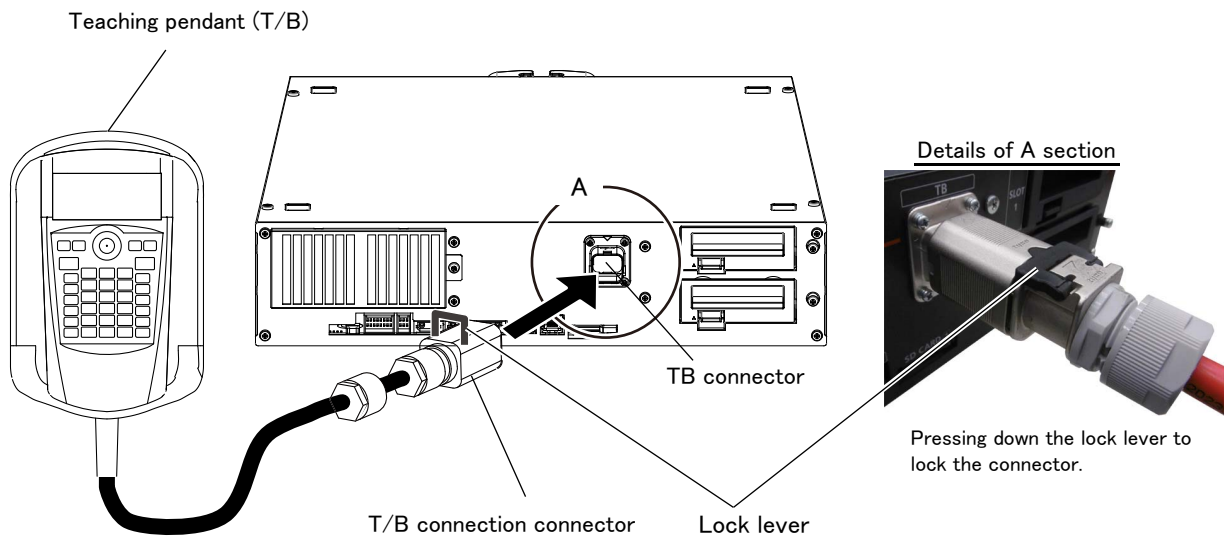

Fig. 2-14 : Installing the T/B
- 2) Refer to Fig. 2-14 and connect T/B connector to the robot controller.